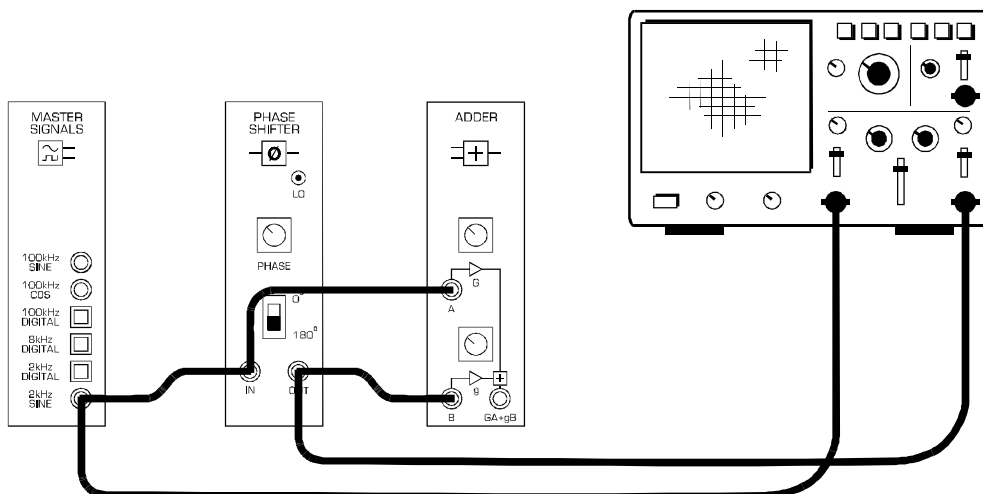

Figure 4
20. Connect the set-up shown in Figure 4 below.
The set-up shown in Figures 4 and 5 is now ready to implement the equation: